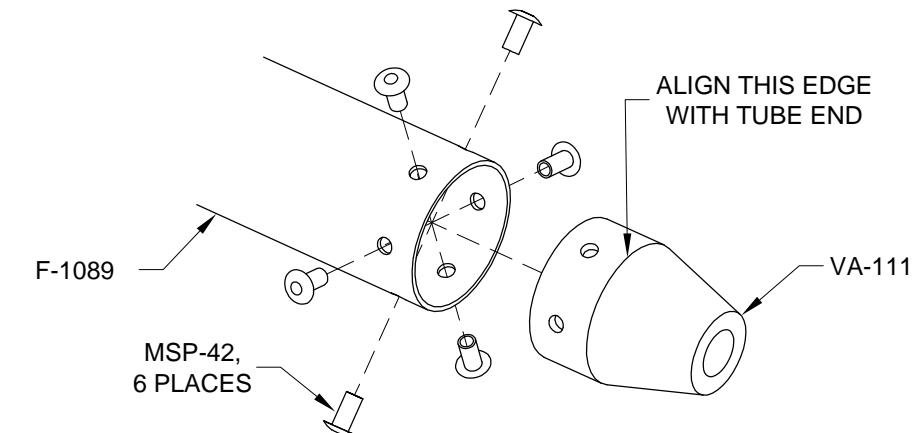

FIGURE 3: THREADED ROD END INSTALLATION
Step 4: Insert a VA-111 Threaded Rod End into the end of the F-1089 Elevator Pushrod (Fwd). Proper engagement of the threaded rod end in the elevator pushrod is when the end of the tube coincides with the edge of the taper in the threaded rod end. See Figure 3.
Permanently install the threaded rod ends to the elevator pushrod using the rivets called-out in Figure 3.